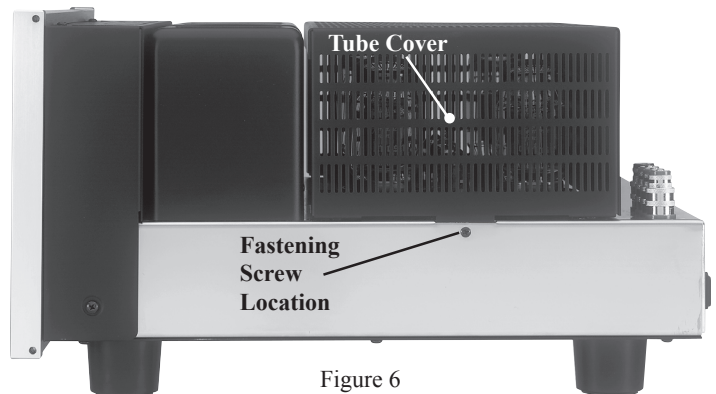

Figure 6
2. Carefully place the Tube Cover onto the MA2275. Refer to figure 6.